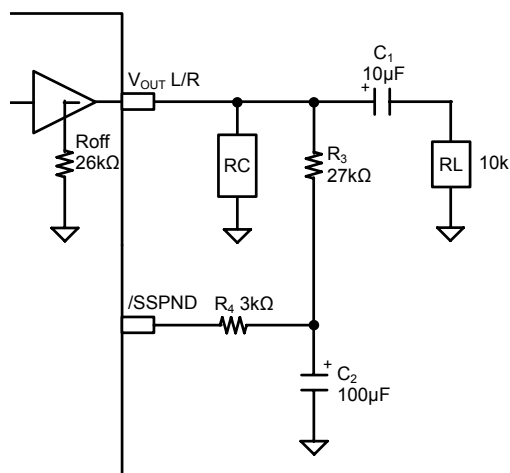

Figure 4
8.4 Example2 of Restart Wait Time Reduction (Fig. 4)